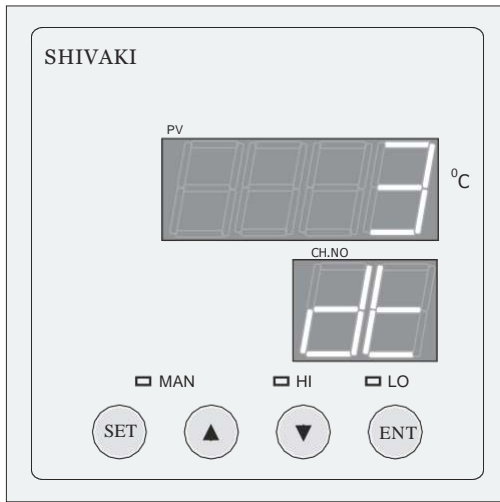

Fig. 1.6.3
Then the top display (PV) shows the preset Date. The bottom display shows the parameter “dt”. Use the  $\Delta$  &  $\nabla$  keys to set the desired digit value (Date). Range: 0 to 31. Press ENT key. Refer Fig.1.6.3